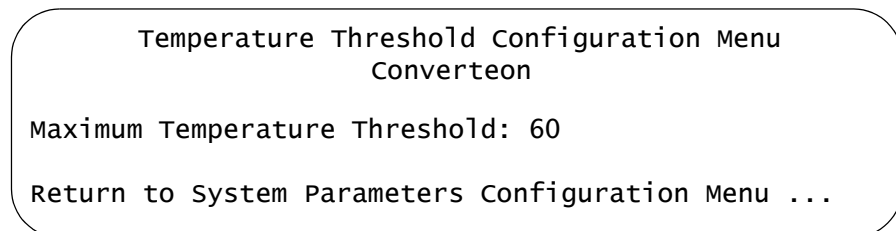

Figure 47. Temperature Threshold Configuration Menu
4. Select **Temperature Threshold Configuration** to display the Temperature Threshold Configuration Menu in Figure 47. The temperature threshold is given in Celsius ( $^{\circ}$  C).